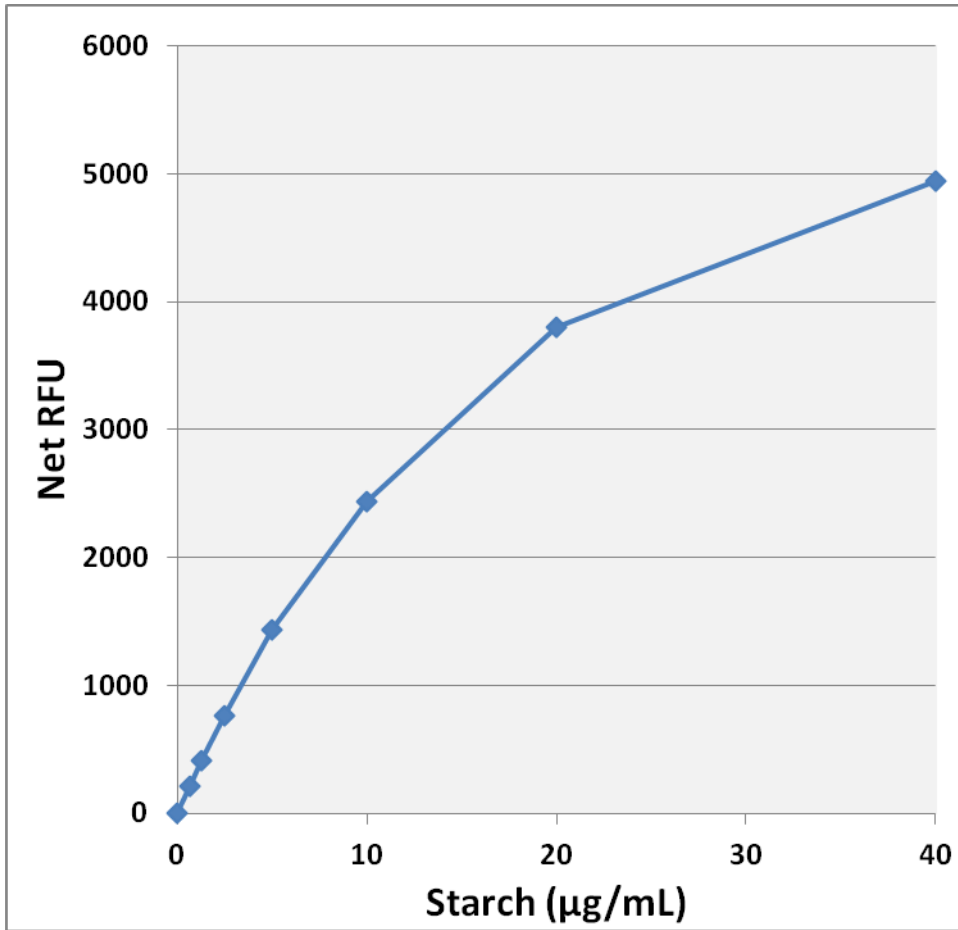

Figure 2: Starch Standard Curve.
3. Graph the standard curve (see Figure 2).